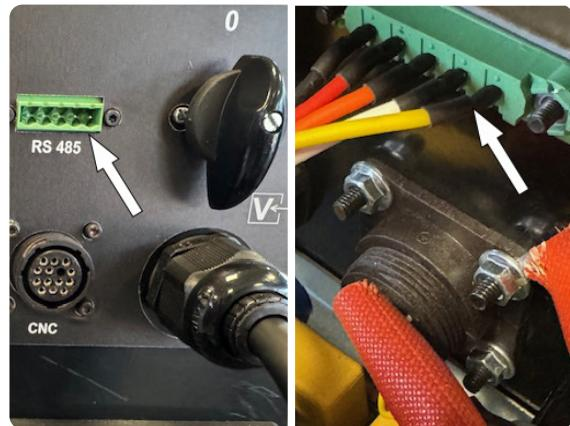

Fig. 10
- ◆ Insert the green rectangular Modbus RS485 connector present at one end of the 5587467 (pos.6) connection in the now available window that was under the previous plate and secure it as shown in fig.10. **WARNING!**: place the black insulating gasket between the Modbus RS485 connection and the inside of the rear panel